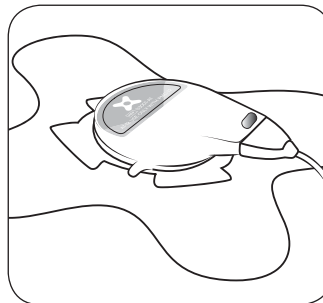

figure 9C: Press Applicator Down
- C. Firmly press the applicator down onto the center of the gel cup until a clicking noise is heard or clicking sensation is felt (Figure 9C).